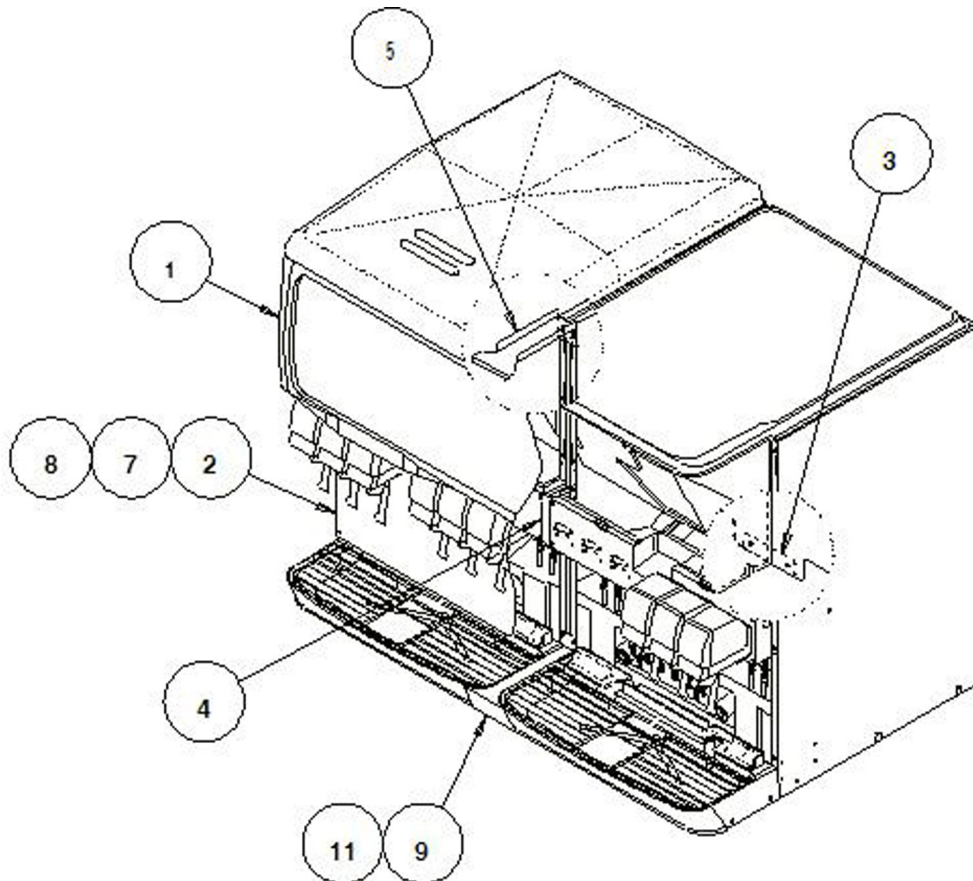

Figure 2. Parts Identification
3. Place the two dispensers into position on the counter (see Figure 2). The dispensers must be at the same height and level for the dual merchandiser to fit properly across the two dispensers. The outside to outside dimensions of the dispensers should be 44-3/8 inches (3/8-inch between the dispensers at center).
4. Remove one screw at the lower rear corner from each dispenser and install the rear mounting plate (item 3) to maintain the proper spacing between the dispensers (see Figure 2).
5. Install the “I” shaped front plate (item 4) using the four beverage panel mounting screws at the center of the dispensers.
6. Remove the top two sheetmetal screws on each cabinet wrapper at the center of the dispensers. Install the top spacer bracket (item 5) using these two screws as shown in Figure 2.
7. Install the drip tray cover (item 9) using the #8-32 screws provided to each cabinet wrapper at the center (see Figure 2). The drip trays must be at the same height for the cover to fit properly.
9. Assemble the lower panel (item 2) to the dispensers with the #8-32 X 2-1/4 inch screws (item 7) and #8 captivating washers (item 8) provided in the kit.